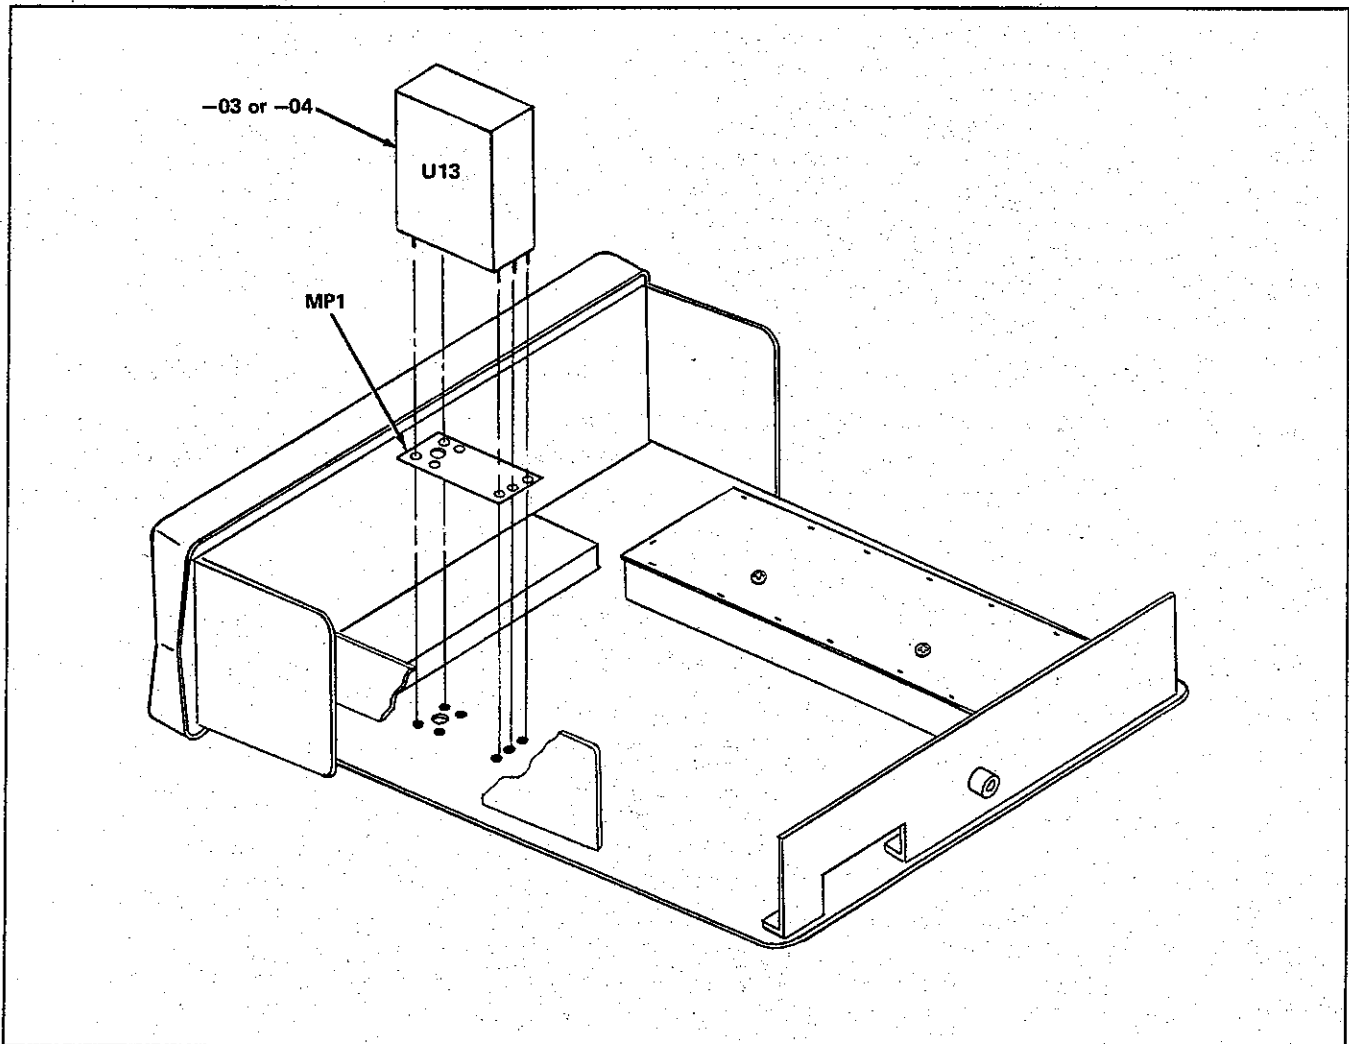

Figure 603-2. -03/-04 TCXO Assembly
- 603-6. The —03 TCXO is a completely sealed unit, containing no replaceable parts (See Figure 603-2).
- 604-6. The —04 TCXO is a completely sealed unit, containing no replaceable parts (See Figure 603-2).